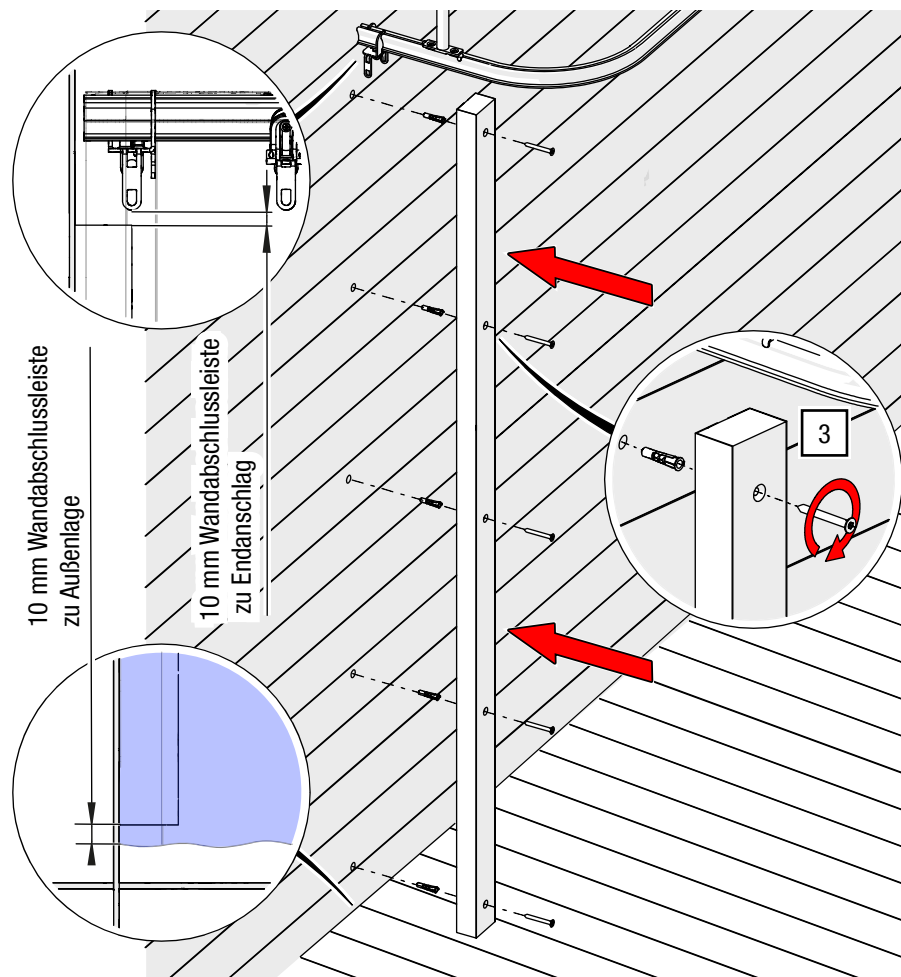

Fig. 119: Wall connection strip – Screw to wall
1. Measure the available height for the wall connection strip and saw the wall connection strip to size (see Fig. 119 for boundary parameters).
If necessary, join two partial pieces together to achieve the required overall height. Pay attention to the necessary clearances of the outer layers and end stop (see Fig. 119).
3. Mount the wall connection strip using mounting material suitable for the substrate (see Fig. 119).